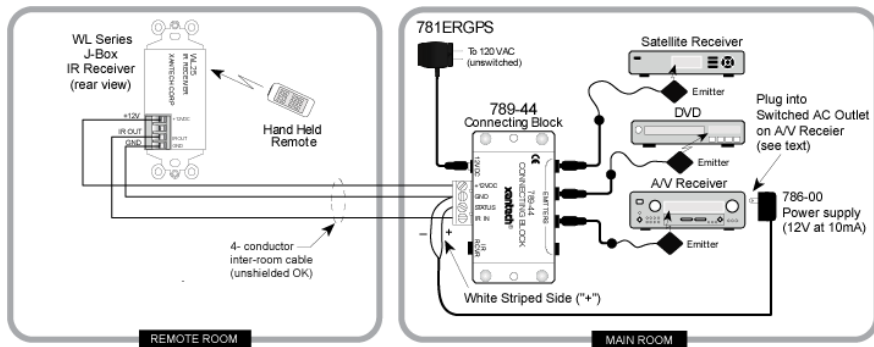

Figure 3 - Typical System Layout using WL series, 789-44, 781ERGPS, and 283D Emitters
2. Connect proper wires to the +12VDC, GND, and IR OUT terminals on the rear of the WL25 as shown in **Figure 3**.
A **typical system**, with a WL25, 781ERGPS Power Supply and 283M Emitters plugged into a 789-44 Connecting Block, is shown in **Figure 3**: